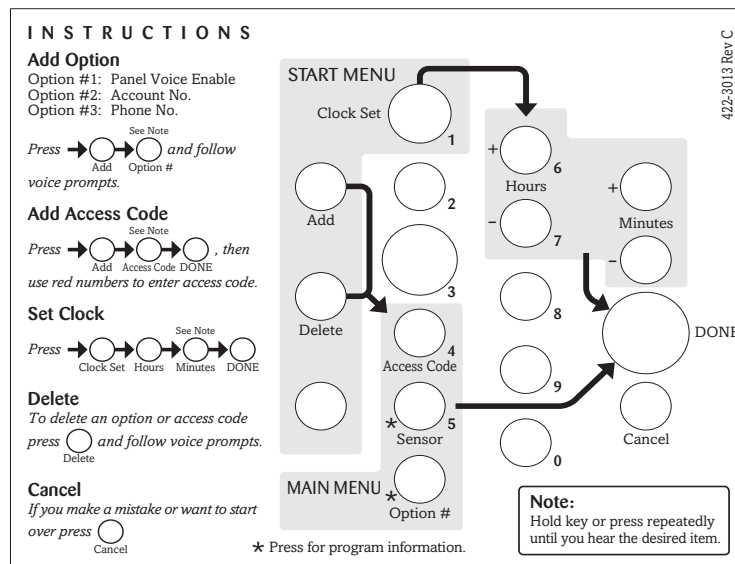

Figure 4. Installer Template
Entering the panel **Program Mode** requires you to use the Installer Template (see Figure 4).
Prior to entering the panel's Program Mode, you must open the panel cover and place the Installer Template (see Figure 4) over the existing panel menu.
6. Enter the *new* access code. After the last number is entered, the panel repeats your selected access code. If you make a mistake while entering the access code, press **Cancel** and repeat Steps 1-6 as necessary. Refer to Figure 4 for a detailed view of the Installer Template.